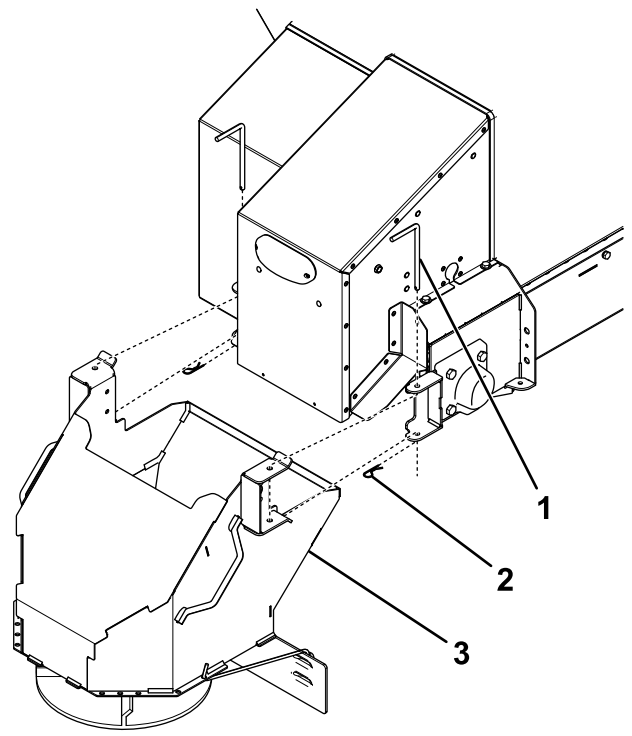

Figure 18
- Remove the 2 latch and cotter pins securing the spinner assembly to the hopper (Figure 18).